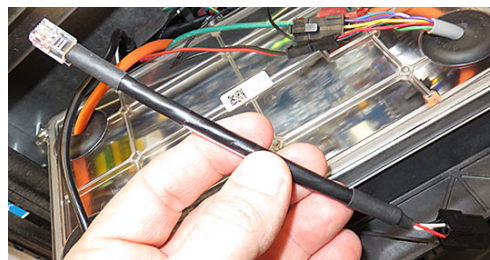

Figure 14
18. Locate the included adaptor (see Figure 14).